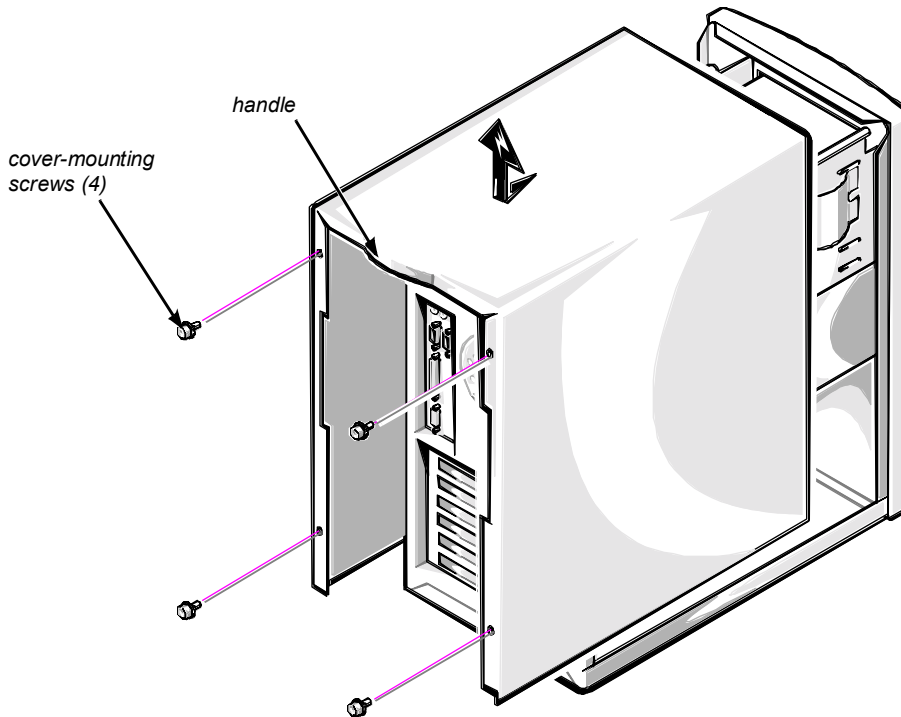

Figure 1. Removing the Computer Cover
3. Remove the computer cover (see Figure 1).